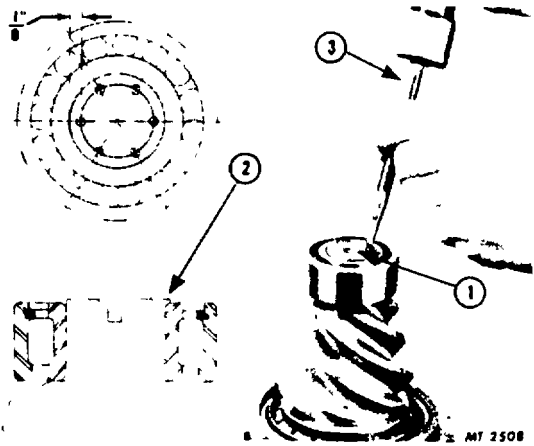

Fig. 9 Skating Pinion Straddle Bearing
1. Press rear thrust bearings (6) firmly against shoulder of pinion shaft (12).
2. Press radial bearing (13) on stub end of pinion shaft (12) and against pinion. Stake face of pinion evenly in six places to secure radial bearings in place (Fig. 9).